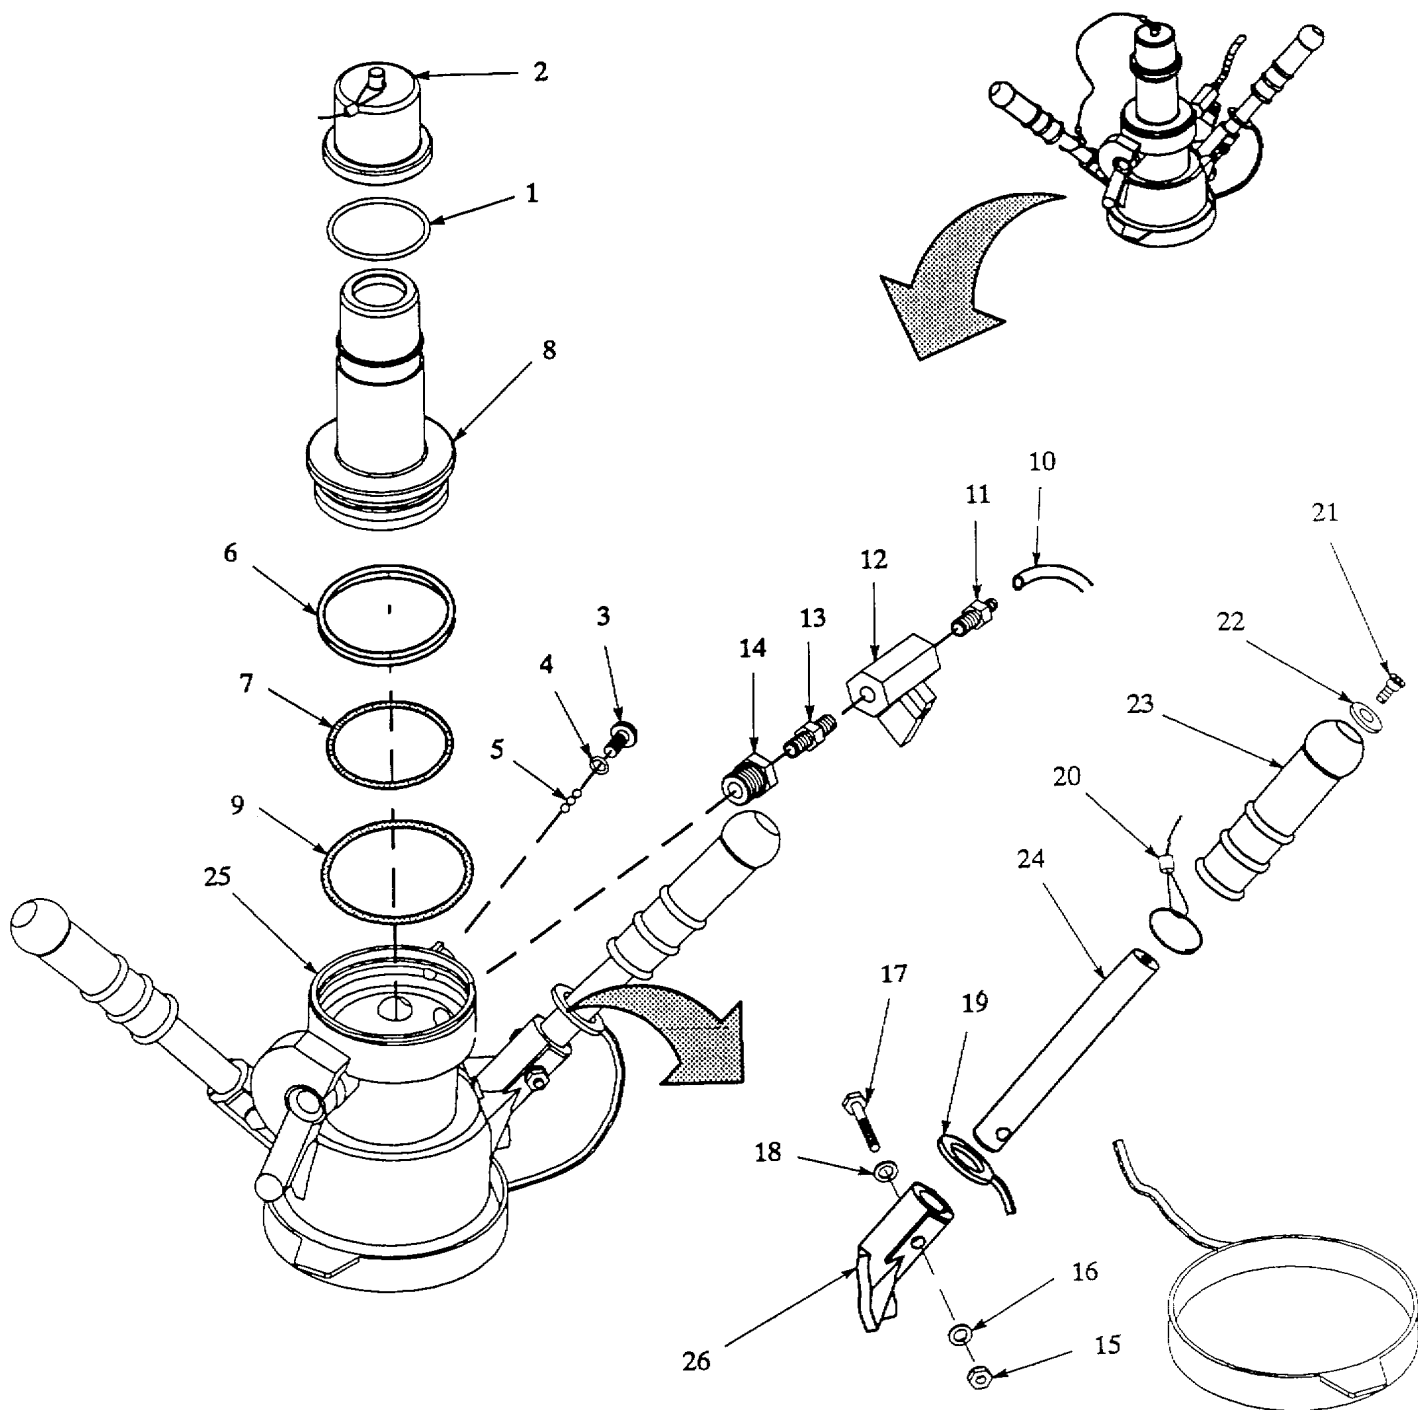

Figure 4-4. Recirculation Nozzle Disassembly.
- a. Disassembly. Refer to figure 4-4.